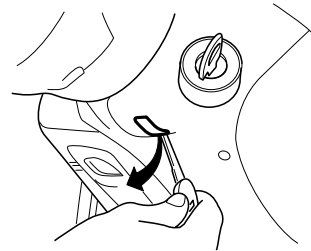

FIGURE 9
1. Make sure the vehicle is in Park (P).
2. Using a flat-tipped tool or another key, carefully pry off the cover from the bottom of the steering column (figure 9).